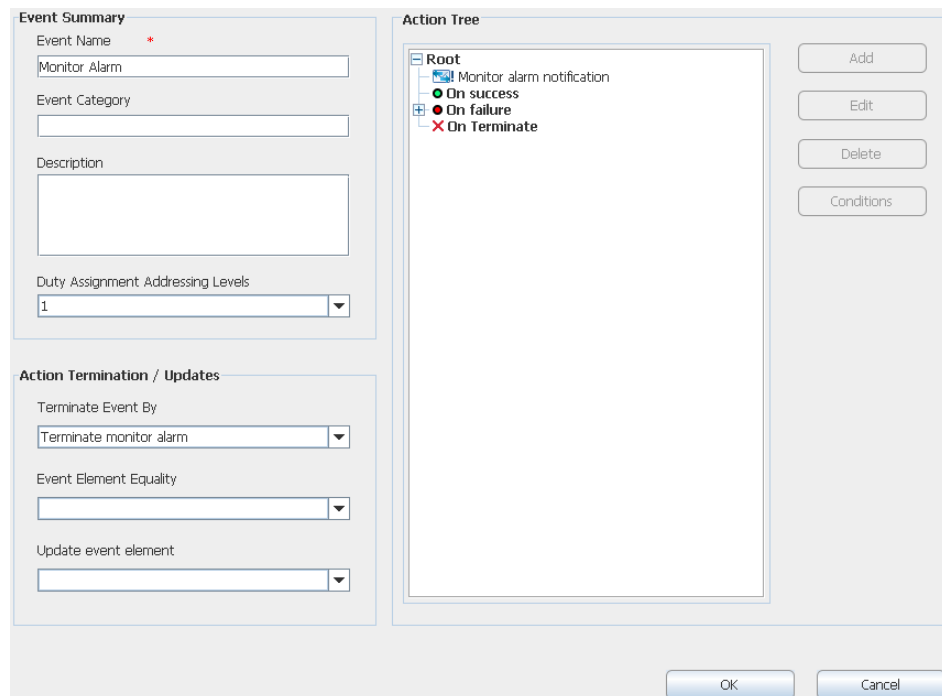

Figure 64. A terminate action has been added in the action tree.
- 2 Select which event that shall terminate the current event in the *Terminate Event By* drop-down list, see figure 64.